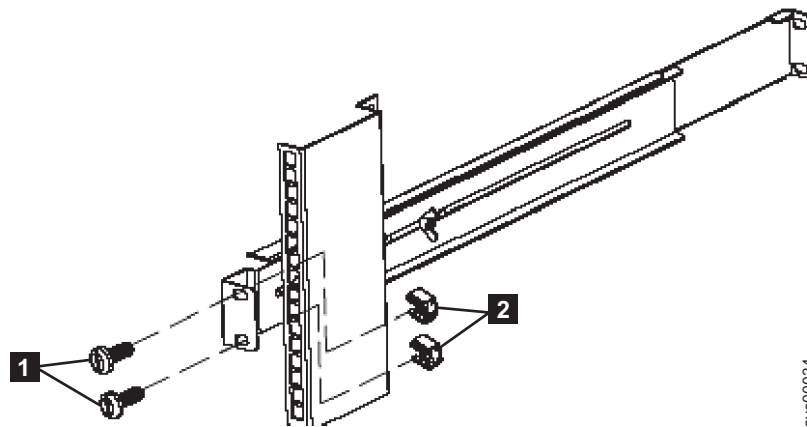

Figure 150. Removing the rear rail on the 2145 UPS-1U
5. Remove the two M6 × 10 screws from the rear side of the rail (**1** in Figure 150) and the two clip nuts (**2**).